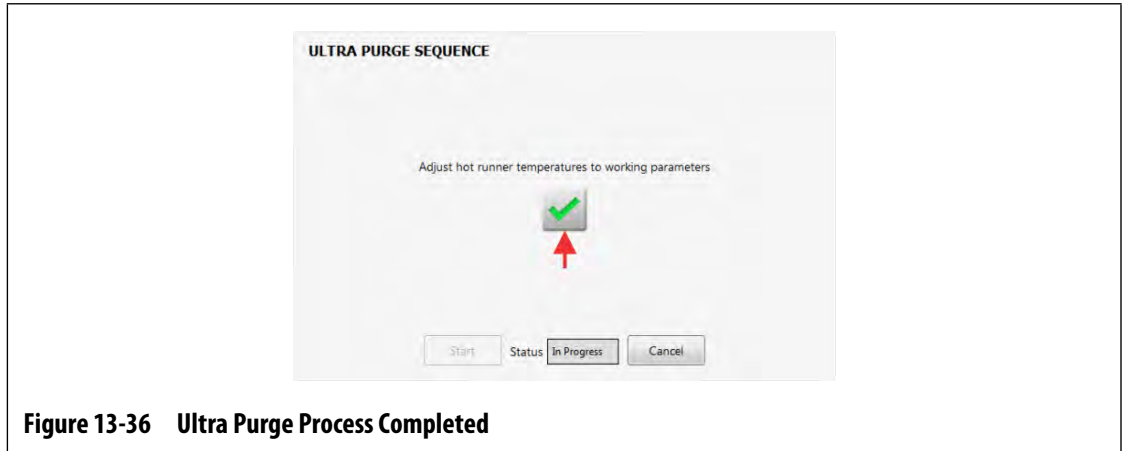

Figure 13-36 Ultra Purge Process Completed
- 25. When the temperatures are at their parameter settings, touch the green check mark button to continue (refer to Figure 13-36).